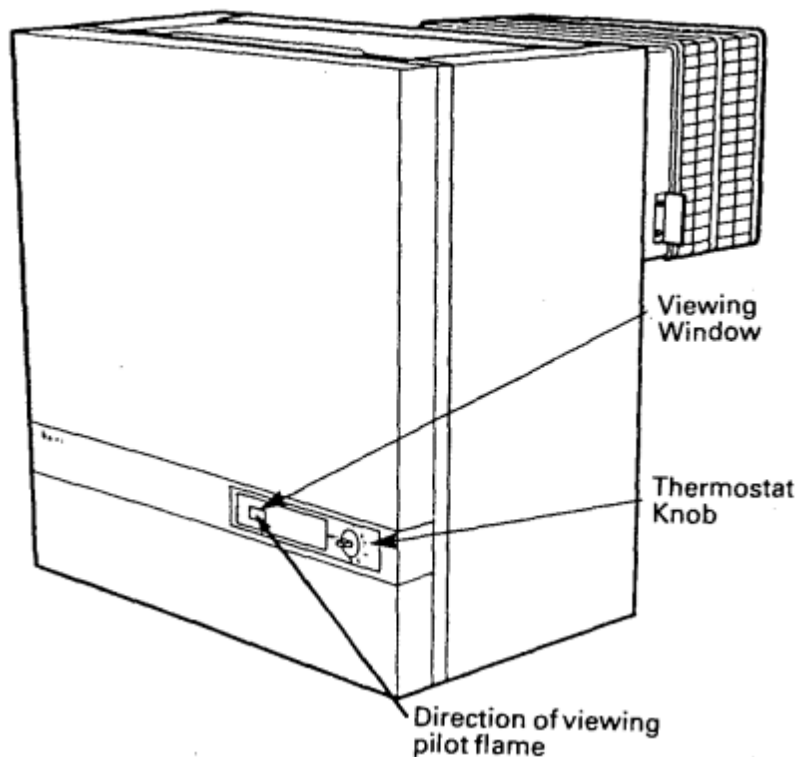

Fig. 1
3. Turn the boiler thermostat to the 'OFF' position as indicated by the marker (Fig. 1).
5. Press the igniter button repeatedly until you see the pilot flame alight, to the left of the viewing window (Fig. 1).